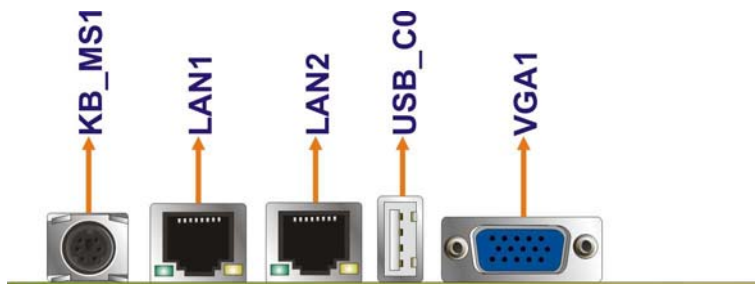

Figure 4-16: 3308150 External Peripheral Interface Connector
Figure 4-16 shows the 3308150 external peripheral interface connector (EPIC) panel. The 3308150 EPIC panel consists of the following:
- CN Location:** See Figure 4-16
**CN Location:** See Figure 4-16
CN Location:	See Figure 4-16
**CN Location:** See **Figure 4-16**